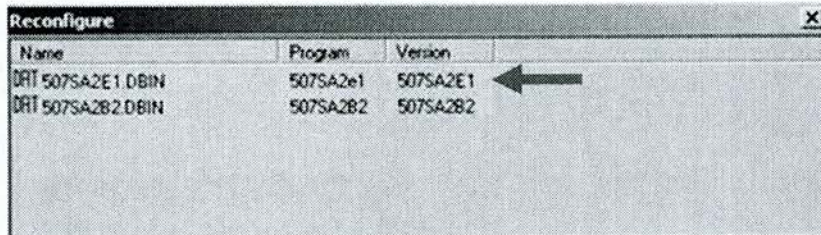

Figure 16
2.14. Select the 2E1 software (arrow, Figure 16) and confirm with: 'GO' and then with : 'YES'